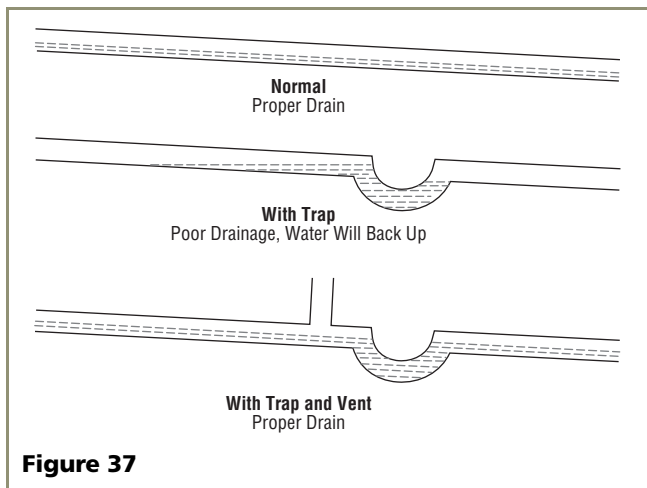

Figure 37
- Drain line does not create traps or created traps are vented (see **Figure 37**).